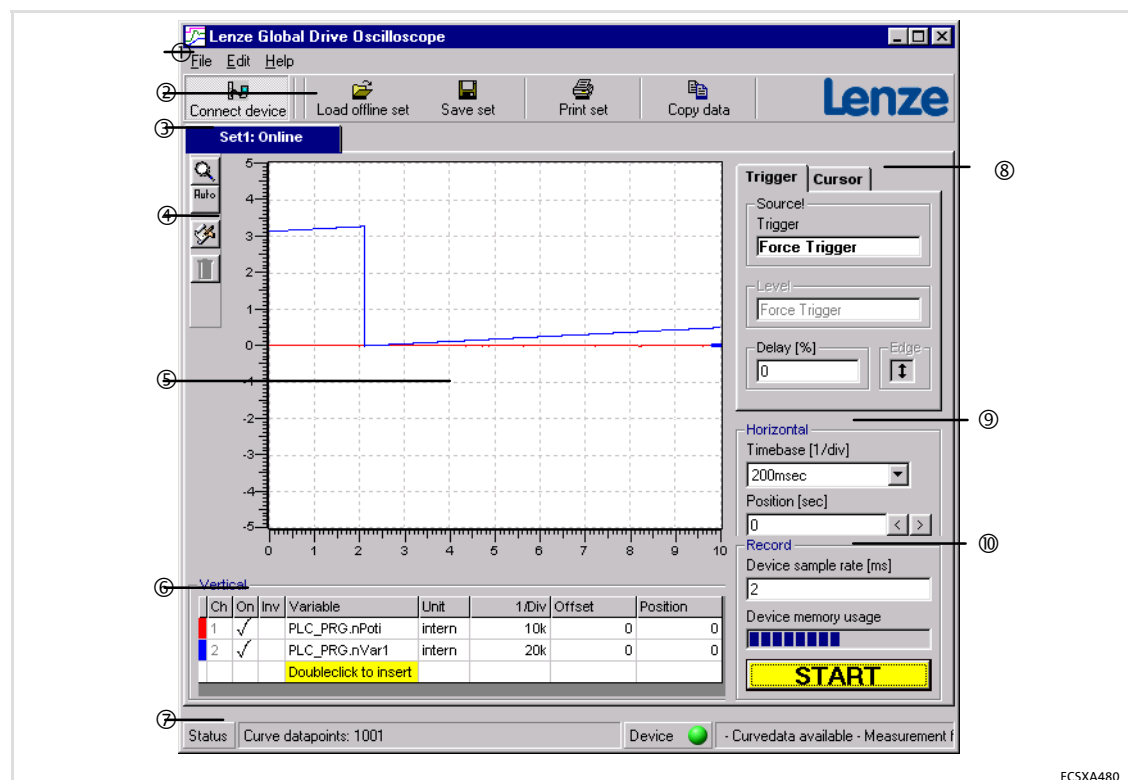

Fig.9-4 Global Drive Oscilloscope (GDO)
Symbol bar at the top (②, Fig.9-4)
Symbol bar on the left (④, Fig.9-4)